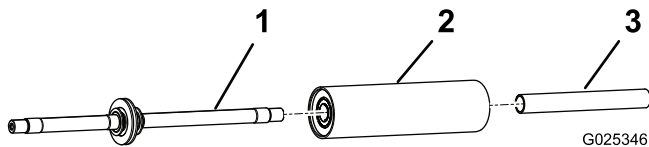

Figure 8
5. Install the roller tube onto the axle, with the bearing toward the inside of the axle (Figure 8).